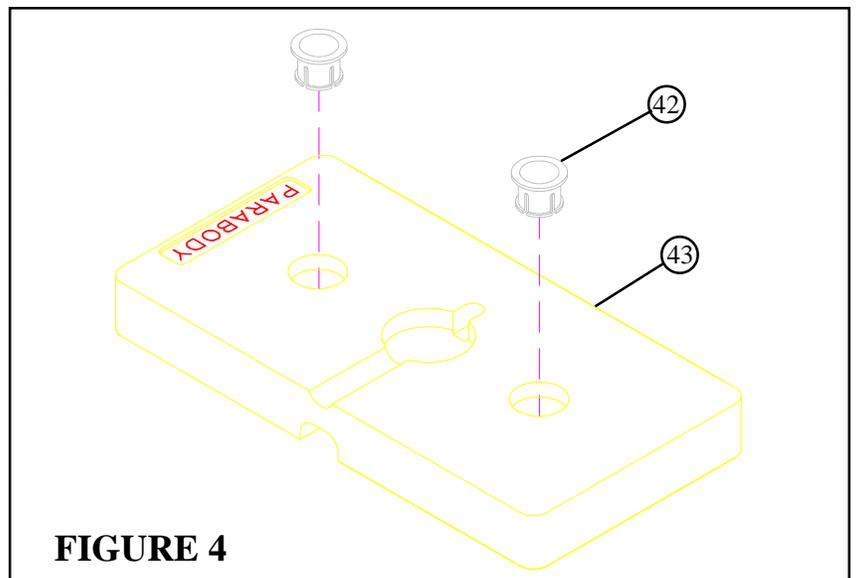

FIGURE 4
- Insert two WEIGHT PLATE BUSHINGS (42) into the "PARABODY" side of each of the twenty WEIGHT PLATES (43) as shown in FIGURE 4.